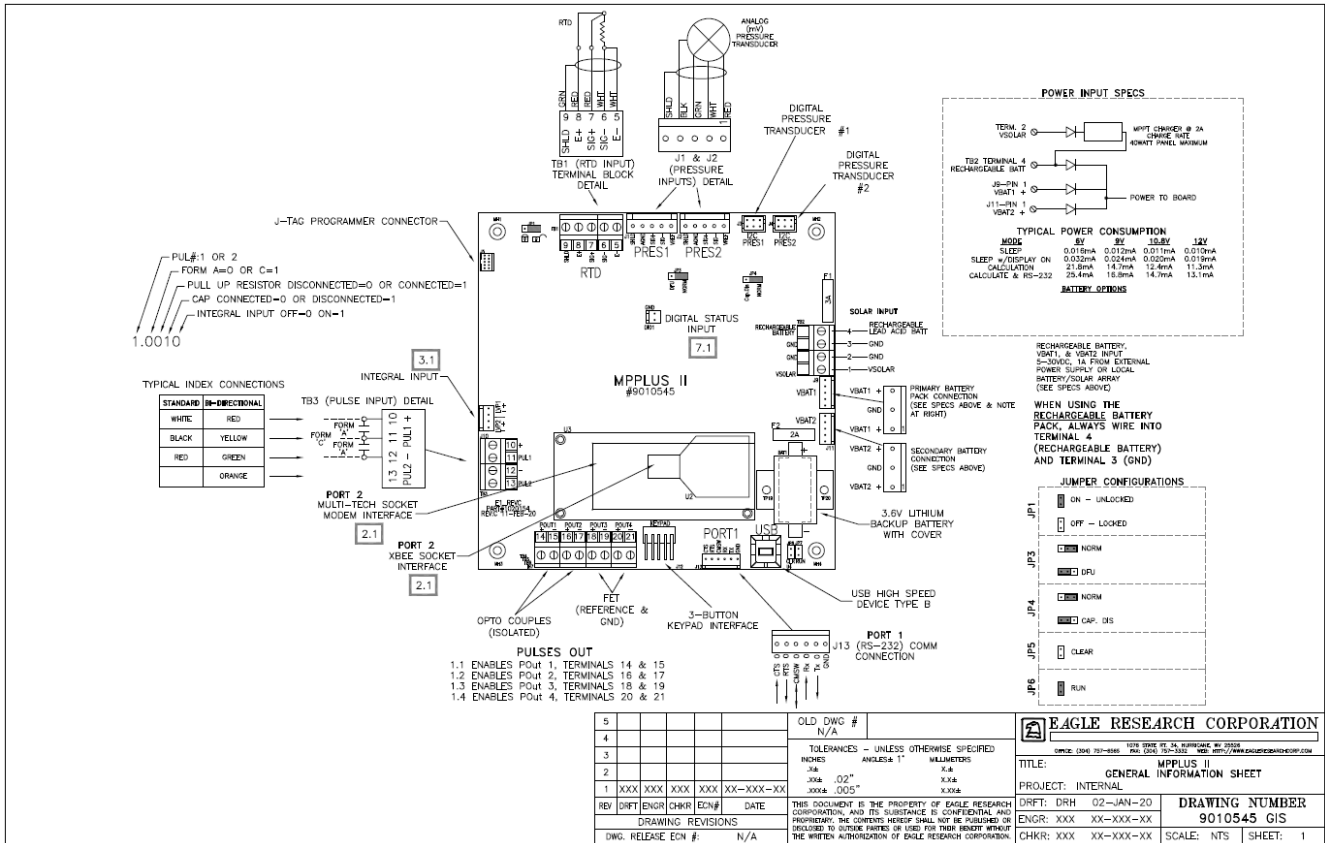

Figure 3 – Processor Board Detail
*(Refer to **Figure 3** on page 14 for processor board power connections.)*
WARNING: (see Figure 3) Do not connect the alkaline or Lithium battery packs to terminal 4. Irreparable damage may occur.
CAUTION: (see Figure 3) Do Not connect the lead-acid battery packs to connector J9 or J11 as charging will not occur.
(See Figure 3 for processor board power connections.)